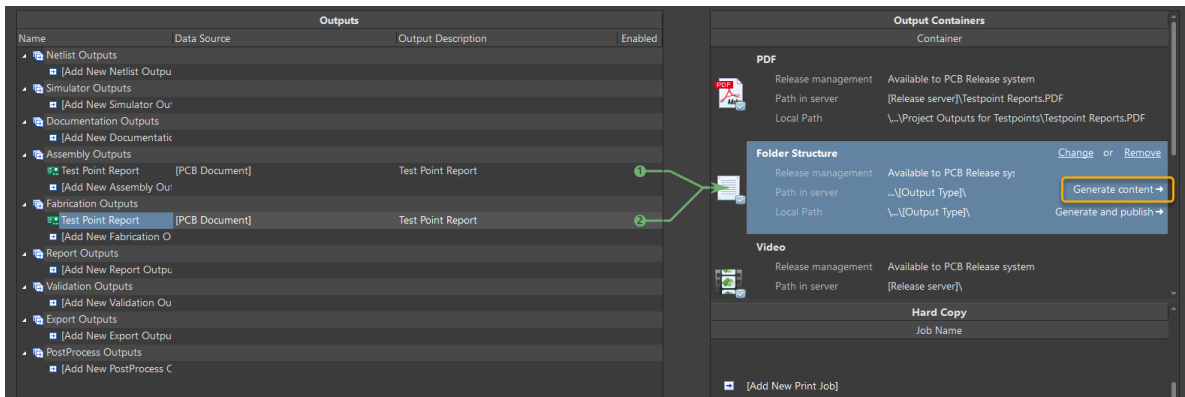

Figure 4. Generating output files
22. Click the **Generate Content** button to begin creating the output files. These files are usually created where the project folder resides, see Figure 4.